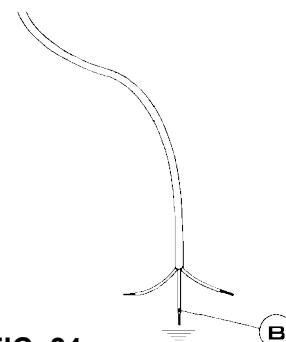

FIG. 24
If the power supply cable is replaced, the installer should leave the ground wire (B) longer than the phase conductors (fig. 24) and comply with the recommendations given in paragraph 10.